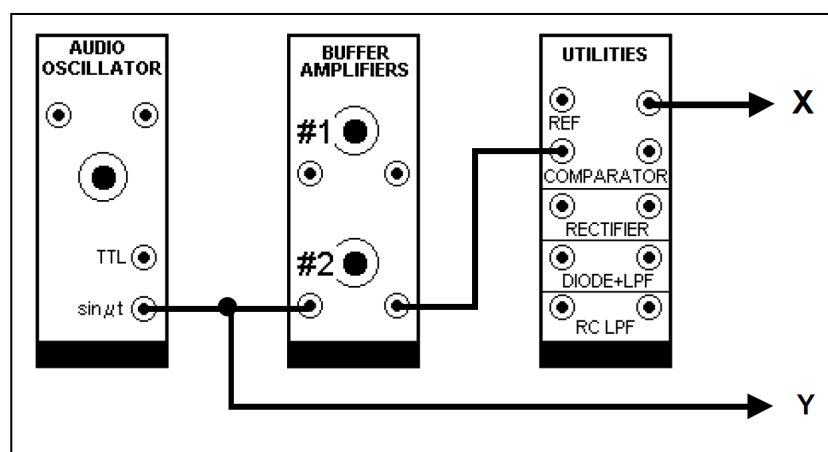

Figure 4: Task 4 — Comparator
1. Patch up the modules as in Figure 4. In addition, connect the REF (top) input of the COMPARATOR to the TMS ground socket (Green on VARIABLE DC). Adjust the GAIN of the BUFFER AMPLIFIER for a 4 Volt p-p output. Adjust the scope controls for a suitable display. Tune the
2. A neat method to produce the output vs input graph is to use the  $x$ - $y$  mode on your scope (refer to Figure 4).